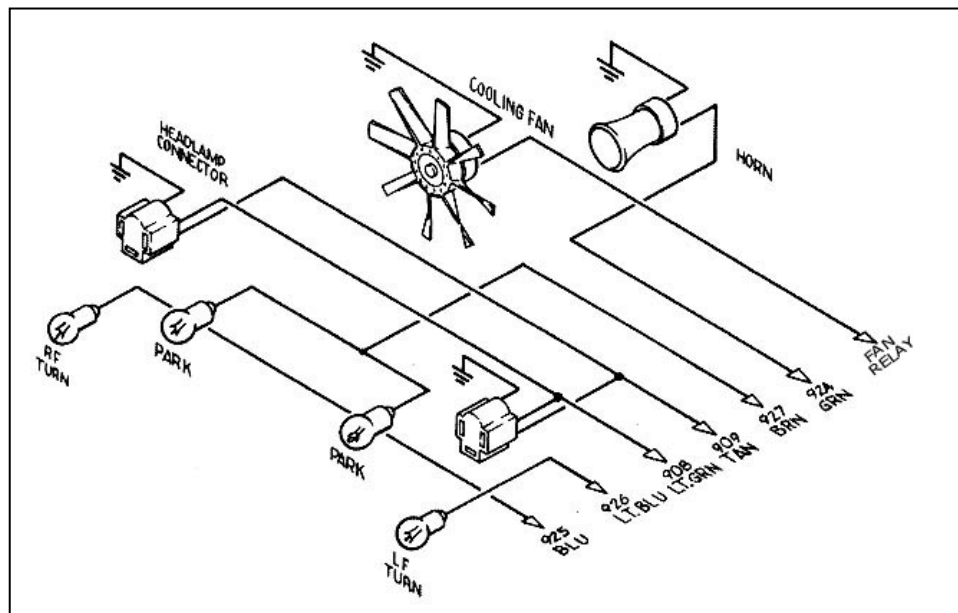

Figure 10-4B HEADLIGHT SECTION A Wiring
10.5 HEADLIGHT SECTION A. See Figure 10-4B.
Note: The wire connected to the fan in Figure 10-4B will need to come from a fan relay output terminal. Wire #901 (gry/wht) from the ACCESSORY SECTION SWITCHES is an activation wire for a fan relay only. It will NOT power an electric fan by itself.